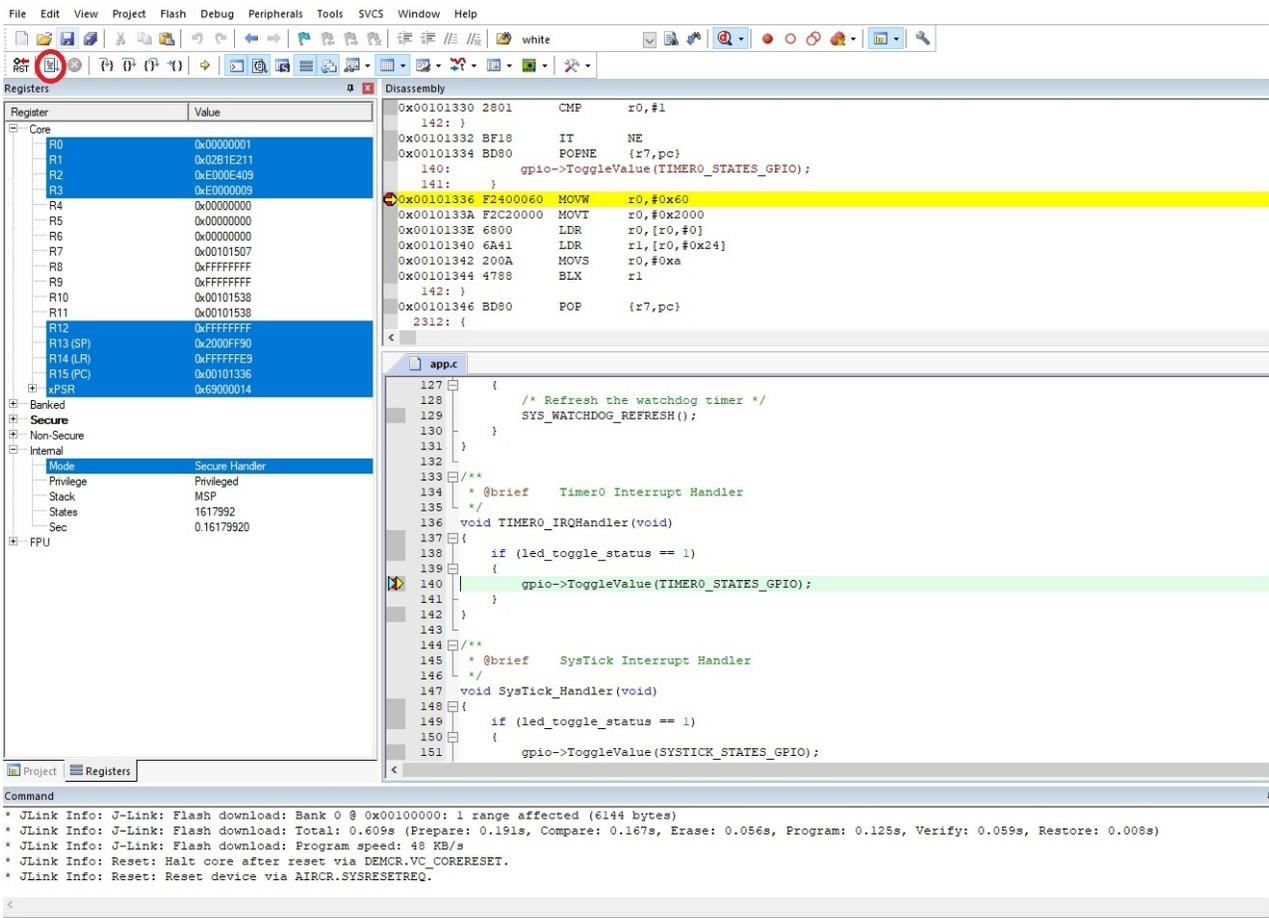

Figure 30. Debug Session in the Keil μ Vision IDE
- The application runs up to the first breakpoint in main, as shown in the "Debug Session in the Keil μ Vision IDE" figure (Figure 30). You can press F11 multiple times to step through the code and observe that the LED changes its state when the application executes the line `gpio->ToggleValue(TIMER0_STATES_GPIO)`.